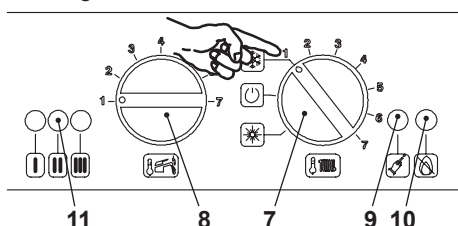

Figure 9.10
- Turn the boiler ON positioning the function selector knob 7 as indicated in Figure 9.10.